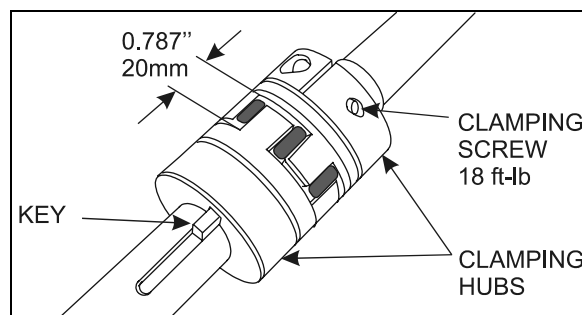

FIGURE 20: JAW COUPLING
8. Reconnect the clamping hubs with the spider. Leave a gap of 20mm (0.787inch) between each clamping hubs as shown on FIGURE 20. Use the motor hexagonal socket output shaft to align the keyways.